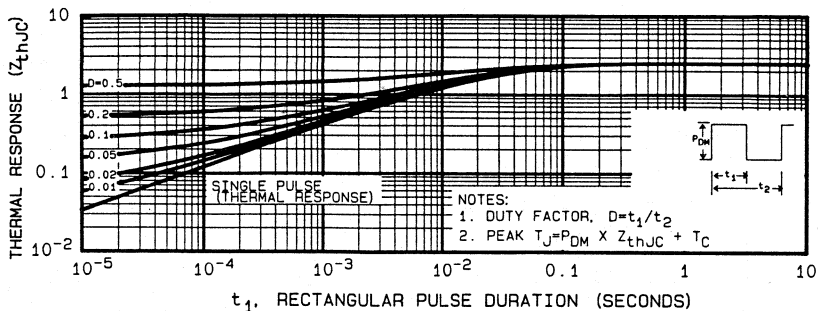

FIGURE 5. MAXIMUM EFFECTIVE TRANSIENT THERMAL IMPEDANCE, JUNCTION TO CASE vs PULSE DURATION
- Repetitive Rating: Pulse width limited by maximum junction temperature. See Transient Thermal Impedance Curve (Figure 5)